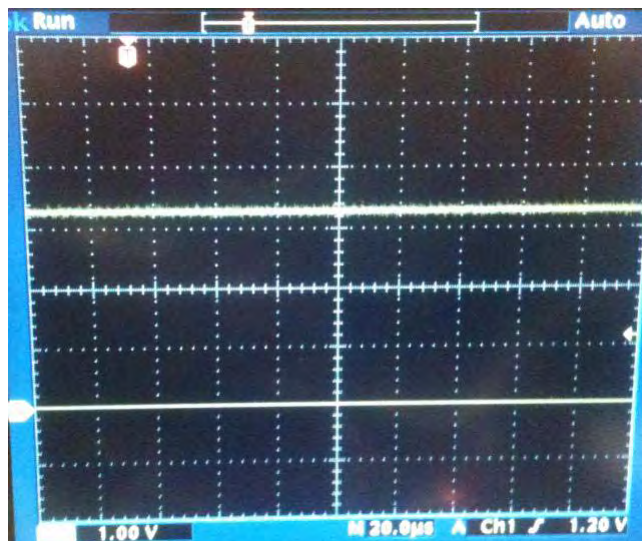

Figure 9. 100% Duty Cycle Waveform
- Adjust the VPS to 2V. The oscilloscope should show a 100% duty cycle like the waveform shown in Figure 9 and the voltage at C8 is 2V.